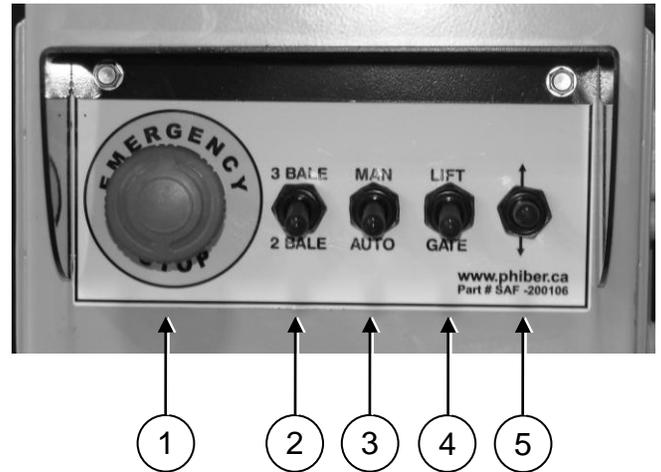

FIG. 5.6
4. Make sure switch 3 is set to “MAN” (manual) mode. (FIG. 5.6).
7. Select “GATE” (tail gate) function with selector switch 4 (FIG. 5.6).
8. Operate tail gate cylinder using the actuator switch, 5, (FIG. 5.6) until cylinder extends and retracts smoothly.
9. Select “LIFT” with function selector switch 4 (FIG. 5.6) and lift loader arm to take pressure off of safety block (board).
11. Operate lift cylinders using the actuator switch, 5 (FIG. 5.6), until cylinders extend and retract smoothly.
12. Switch Mode switch to “AUTO” (automatic operation) with selector switch 3 (FIG 5.6).